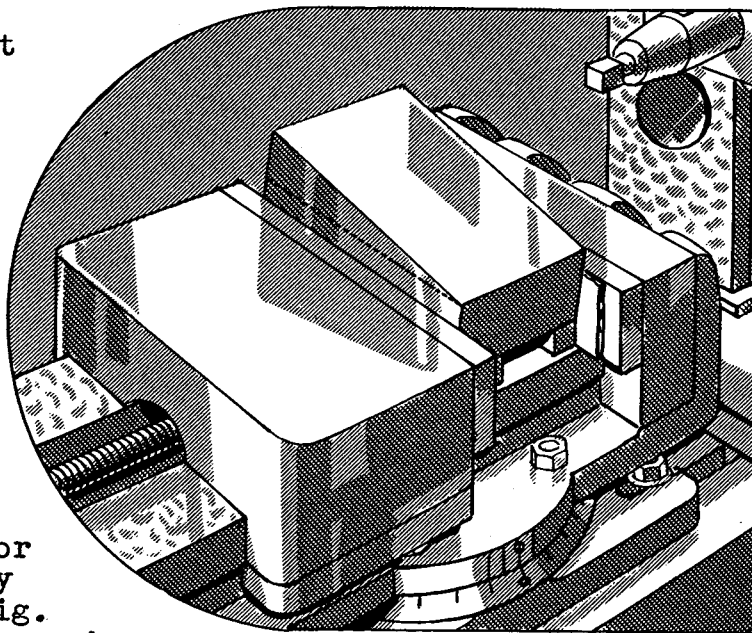

FIG. 361
2. Set the vise at 90° to the direction of the stroke. The zero mark on the vise will coincide with the 0° graduation on the base (Fig. 361). Refer also to page 124.
5. Place pieces of paper or strips of cardboard between the vise jaws and the sides of the work if the work surfaces are rough or if there is any danger of injury to the vise jaws or the work (Fig. 361). Even if the sides of the work are smooth, the vise jaws may be in poor condition and injure the sides of the work when the vise is tightened. The vise jaws should be in good condition and every means should be used to keep them so.
6. Place the work in the vise and hold it with one hand so that the scribed guide line lies approximately parallel with the top of the vise (Fig. 361). Refer also to page 209.